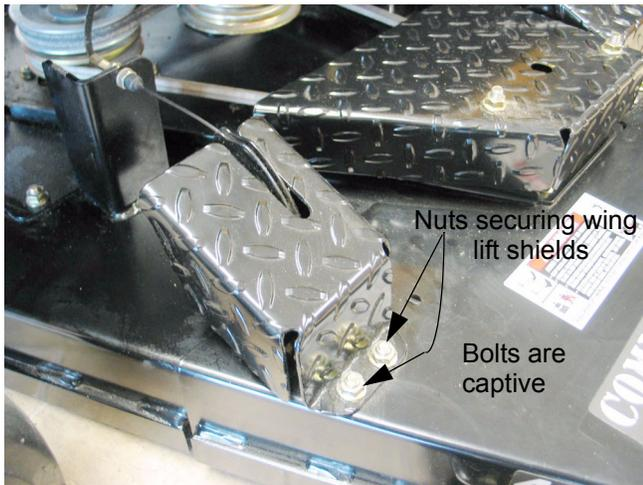

Figure 13.2
- 13.2. Remove the shields that cover each wing lift mechanism using a 9/16" wrench. See Figure 13.2.